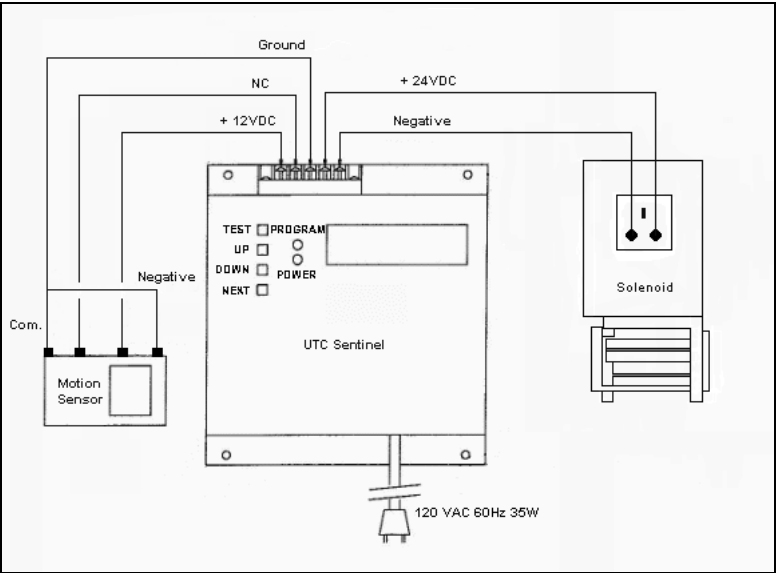

Figure 7: UTC Sentinel Control Unit & Wiring
See Mounting UTC Sentinel™ Control Unit and Figure 7 for location instructions.
-  For location instructions, see Mounting the UTC Sentinel™ Control Unit and Figure 7.
See Figure 7.